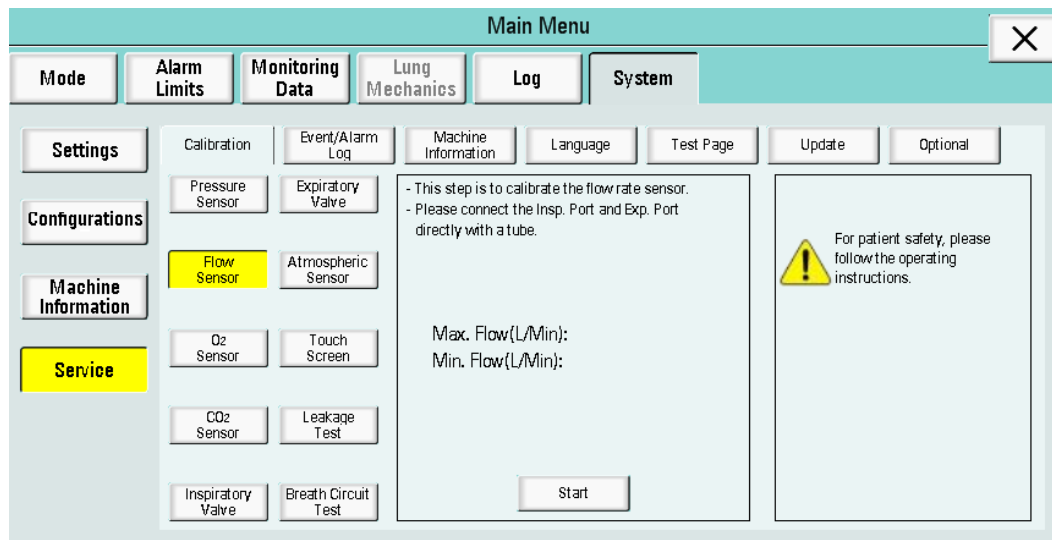

Figure 6-64
(2) Flow Sensor Calibration: Click “Flow Sensor” to enter the interface. A message is displayed: “This step is to calibrate the flow sensor. Please connect the insp. Port and Exp. Port directly with a tube” as shown in Figure 6-64.